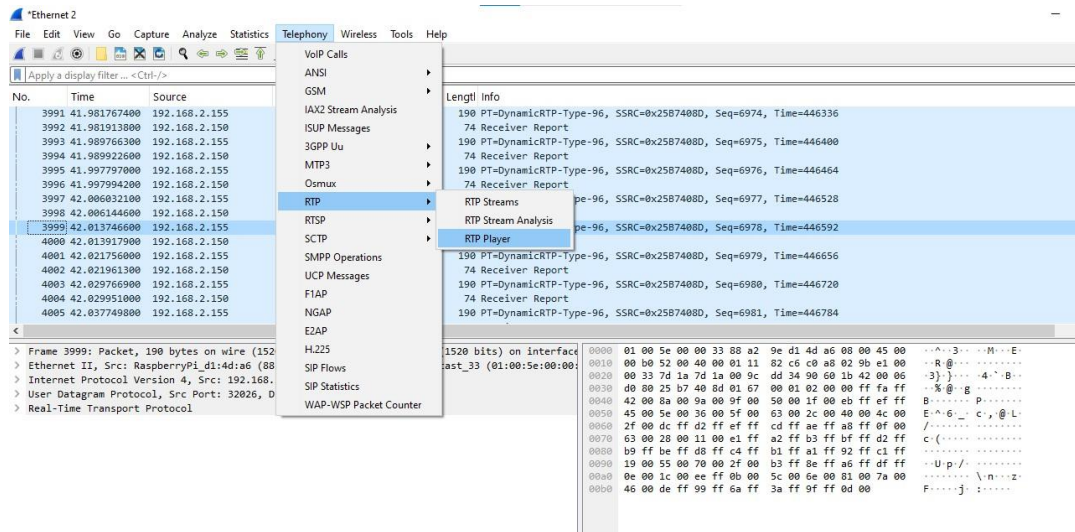

Figure 46: RTP Packet to RTP Player
- 14 Click on RTP packet and go to the Telephony menu at the top of the Wireshark window and click on RTP Player as shown in Figure 46.